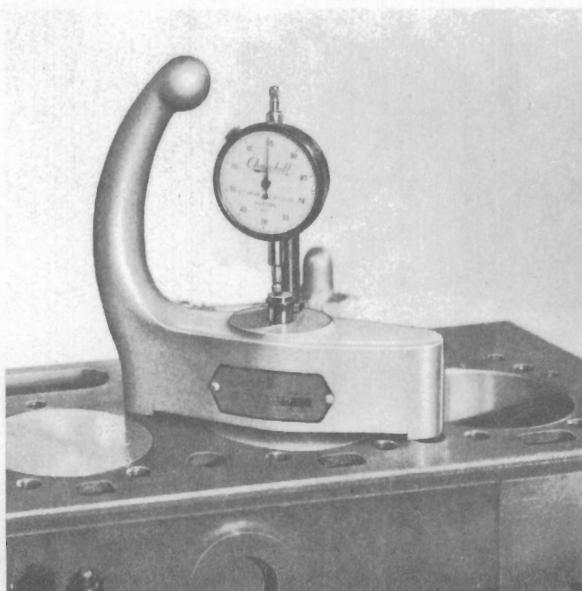

Fig. F.5.
2. Turn the crankshaft until the piston is at top dead centre and measure the distance between the top face of the cylinder block and the piston crown using the Piston Height Gauge. (See Fig. F.5).